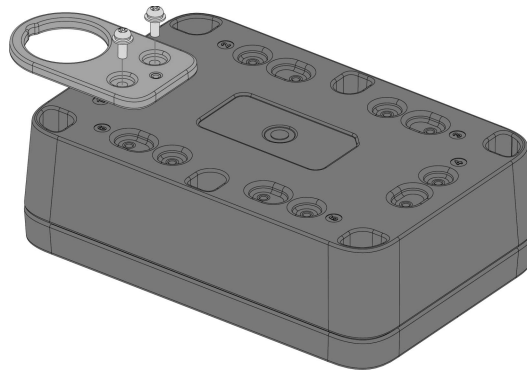

Figure 42: Fixing the hook loop mount on the enclosure
2. Fix the hook loop mount marked with the letter **J** on the WisBlock Unify Enclosure using two (2) pieces of M3*8 mm Head screw with washer. Place it on fixed position number **1 or 4** of the enclosure, as shown in **Figure 42**.